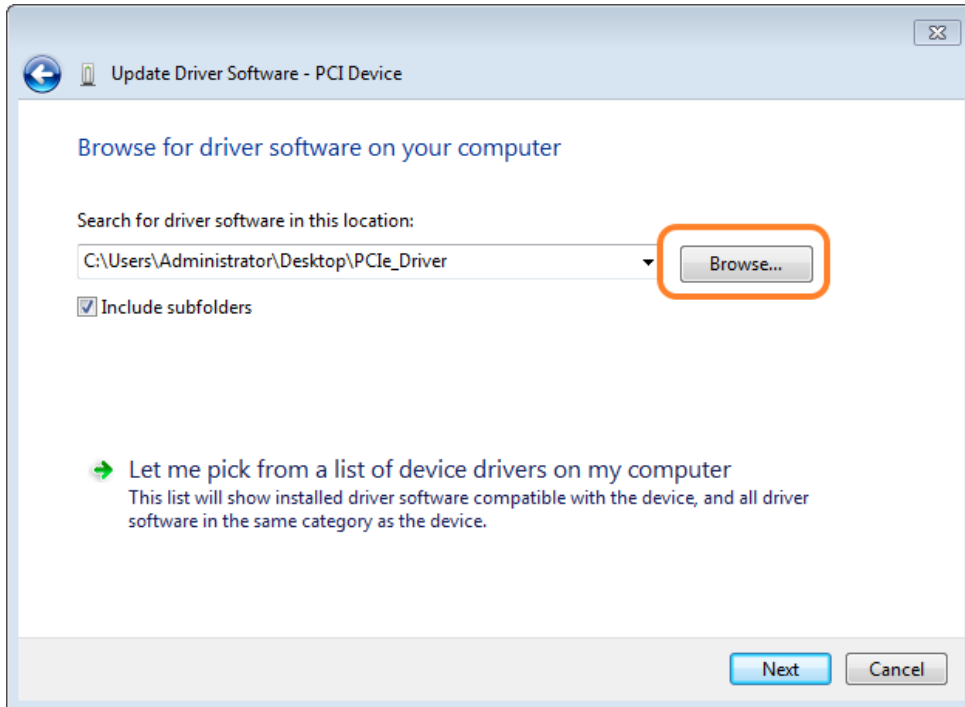

Figure 0-6 Browse for driver software on your computer
9. In the **Browse for driver software on your computer** dialog, click the **Browse** button to specify the folder where altera_pcie_din_driver.inf is located, as shown in **Figure 0-6**. Click the **Next** button.